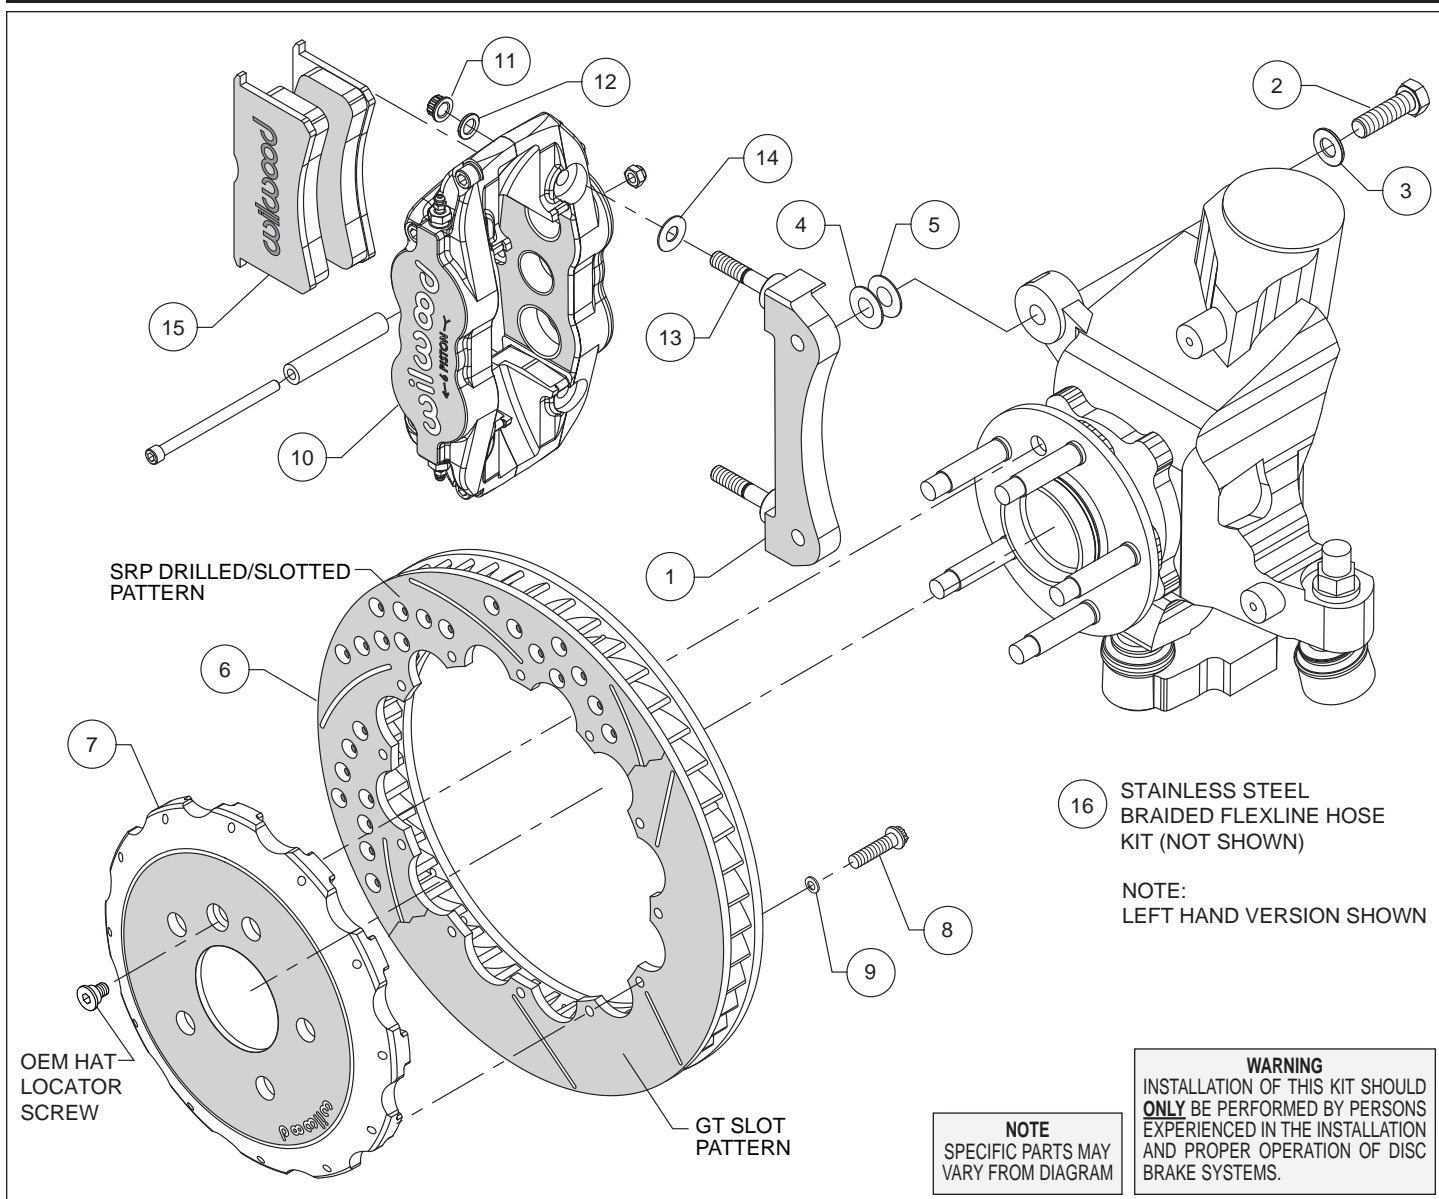
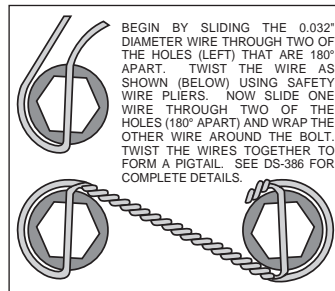

Figure 1. Typical Installation Configuration
Figure 3. Safety Wire Diagram
**Assembly Instructions** (numbers in parenthesis refer to the parts list and Figure 1 on the preceding pages):
- The caliper mount bracket (1) should initially be installed with clean, dry threads on the mounting bolts. Orient the bracket as shown in Figure 1 and Photo 1, and install using bolts (2) and washers (3). Initially place one .033 thick shim (4) on each bolt between the bracket and upright, Figure 1. Temporarily tighten the mounting bolts. **NOTE:** *The bracket must fit squarely against the mount bosses on the upright.* Inspect for interference from casting irregularities, machining ridges, burrs, etc. Later, after the caliper alignment has been checked, the mount bolts will be secured using red *Loctite*® 271.
- Orient the rotor (6) and the hat (7) as shown in Figure 1 and Photo 2. Attach rotor to hat using bolts (8) and washers (9). Using an alternating sequence, apply red *Loctite*® 271 to the threads, and torque to 155 **in-lbs**. For an added measure of security, the bolts may be safety wired using standard 0.032 inch diameter stainless steel safety wire as shown in Figure 3.
- NOTE:** *This kit contains distinct right and left hand calipers that must be mounted in a specific direction, as described below.* Lubricate the caliper mounting studs (13) with lightweight oil. Initially place one .035" thick shim (14) on each stud as shown in Figure 1 and Photo 4. Mount the caliper (10) onto the bracket (1) using lock nuts (11) and washers (12), Figure 1. Ensure that the caliper is mounted so that the largest pistons are at the rotor exit end of the caliper, in relation to the direction of rotor rotation. Temporarily tighten the lock nuts and view the rotor through the top opening of the caliper. The rotor should be centered in the caliper, Photo 5. If not, adjust by adding or subtracting shims (4 and/or 5) between the bracket and the upright. Always use the same amount of shims on each of the two mounting bolts. Once the caliper alignment is correct, remove the bracket mounting bolts (2) one at a time, apply red *Loctite*® 271 to the threads, and torque to 60 ft-lb.